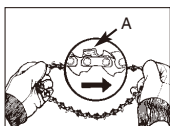

Fig. 4A
1. Spread chain out in a loop with cutting edges (A) pointing CLOCKWISE around loop (Fig. 4A).